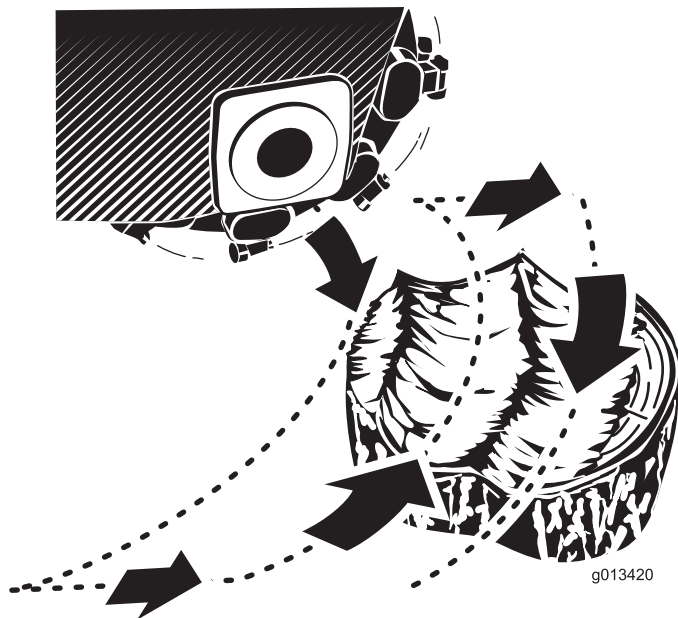

Figure 22
2. Use the grinder control lever and the traction control to position the grinder to one side of the front of the stump, about an inch below the surface (Figure 22).
4. Use the grinder control lever to swing the grinder slowly across the face of the stump, cutting away a swath of chips (Figure 22).
5. Move the machine forward a few inches and repeat step 4 (Figure 22).
6. Repeat steps 4 through 5 until you have ground off the entire face of the stump (Figure 22).